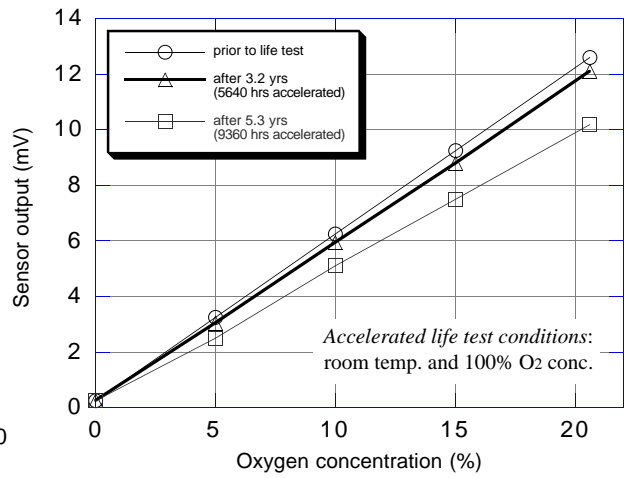

Fig. 3 - Linearity of KE-25 output voltage under accelerated life test (typical values)
- Fig. 3: Linearity of output voltage under accel. life test